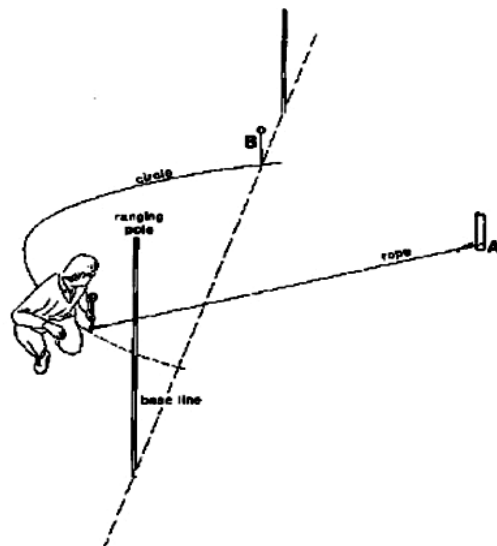

Fig.9. Setting out a perpendicular line, Step 1
One loop of the rope is placed around peg (A). Put a peg through the other loop of the rope and make a circle on the ground while keeping the rope straight. This circle crosses the base line twice (see Fig.9). Pegs (B) and (C) are placed where the circle crosses the base line.